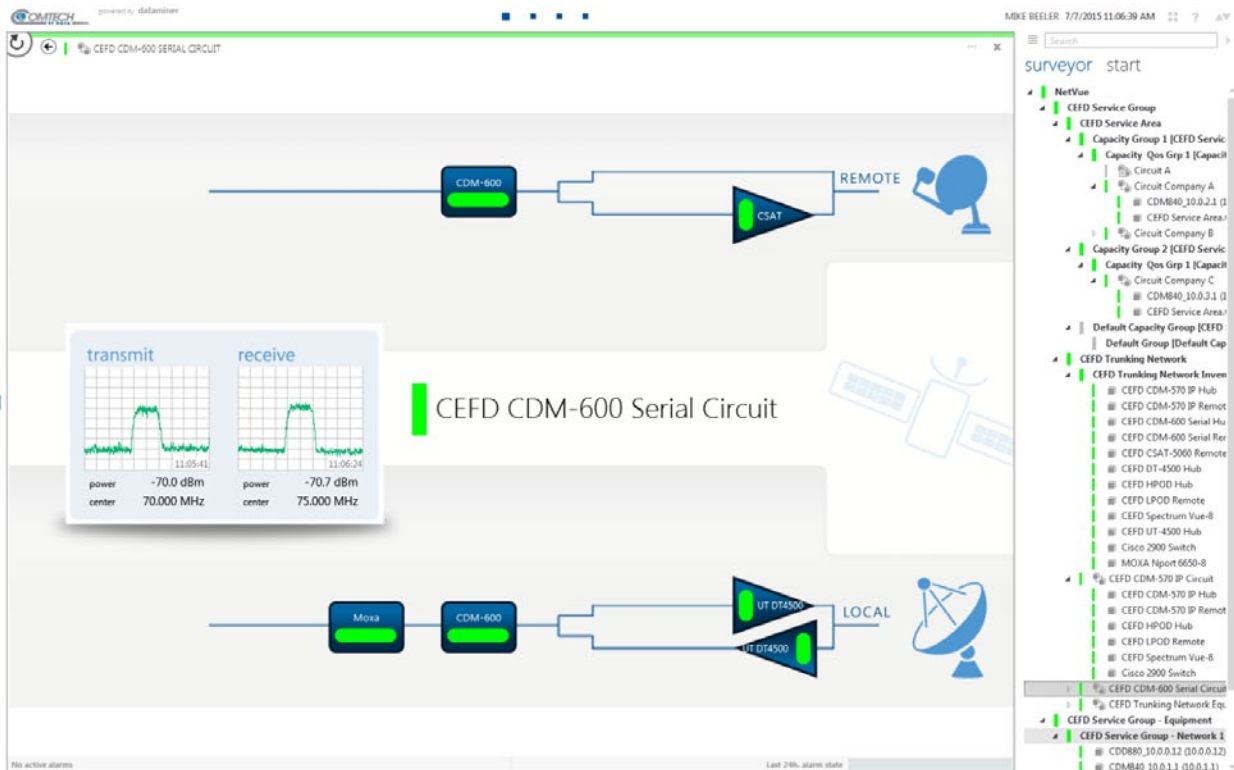

Figure 15-3 Integrated SpectrumVue-8 (Circuit view)
See Figure 15-3. Integrated operation shows the spectrum views in the user templates. One SpectrumVue-8 can be shared among many templates. The views are acquired by the SpectrumVue-8's eight (8) input ports.